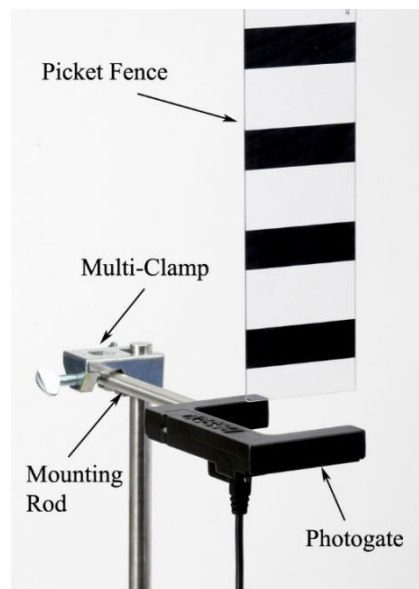

Figure 2: Picket Fence Initial Position
6. To practice dropping the Picket Fence through the Photogate: Position the bottom of the Picket Fence just above the Photogate, as shown in Figure 2.